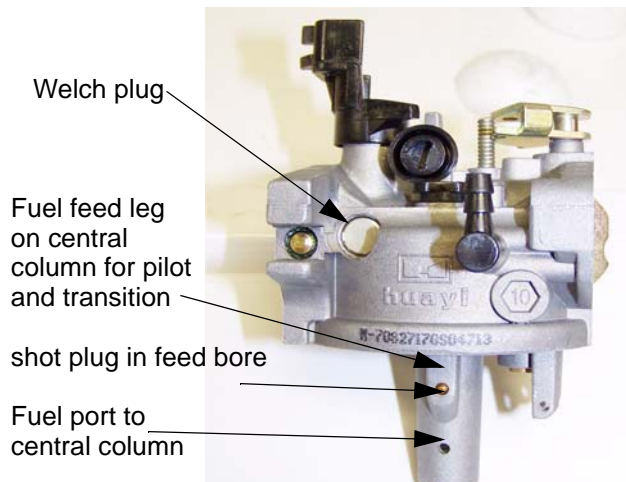

Figure 4.20
7. The throttle stop screw has a large pliable lip around the head of the screw. That lip secures a metering plug for the pilot and transition ports. Remove the screw to reach the plug. See Figure 4.20.